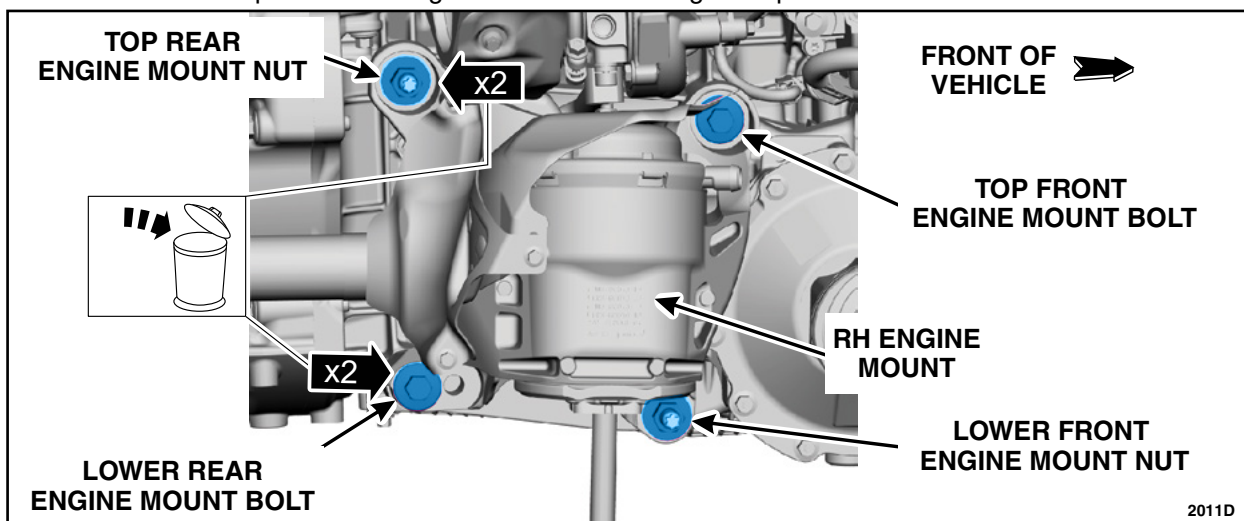

FIGURE 4
5. Replace each engine mount bolt and nut, one fastener at a time, with a *new* bolt or nut. Discard all 4 of the original fasteners. See Figure 4.